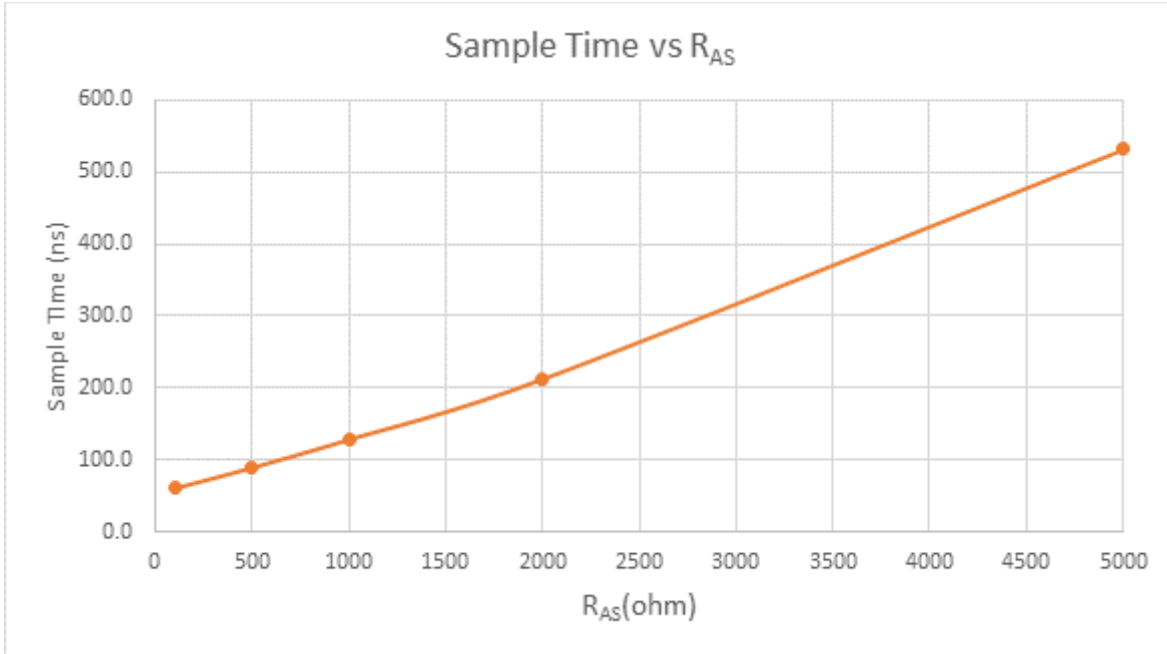

Figure 61. Sample time vs. R_{AS}
- ³ See Figure 61.
³ See Figure 61.